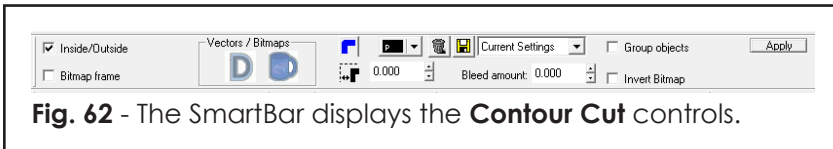

Fig. 62 - The SmartBar displays the **Contour Cut** controls.
2. From the **Engrave** menu, choose **Contour Cut** (Fig. 62).